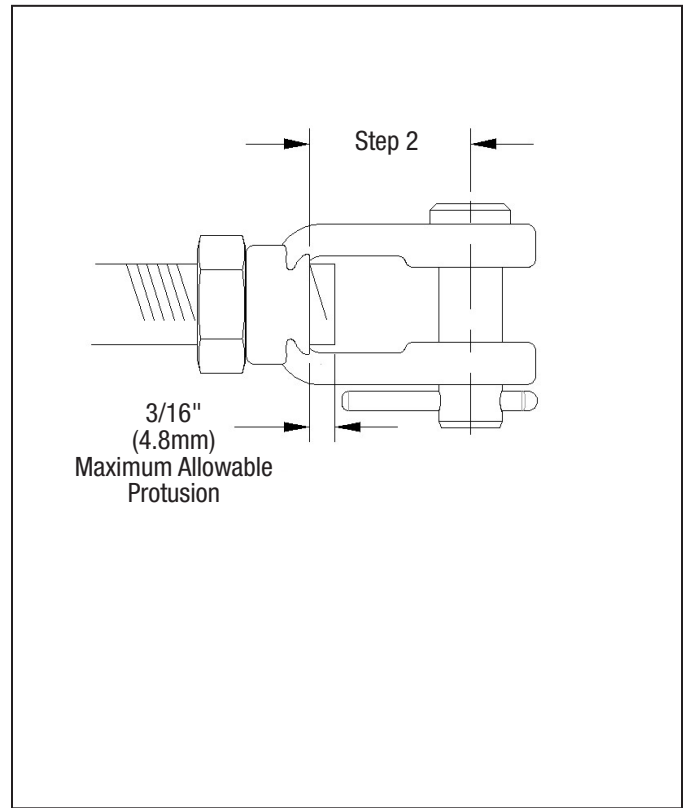

Figure 8 – Clevis Length Measurement
2. Measure the distance from the center of the clevis pin hole to the bottom of the yoke. Record this distance as the length of the clevis (See Figure 8).